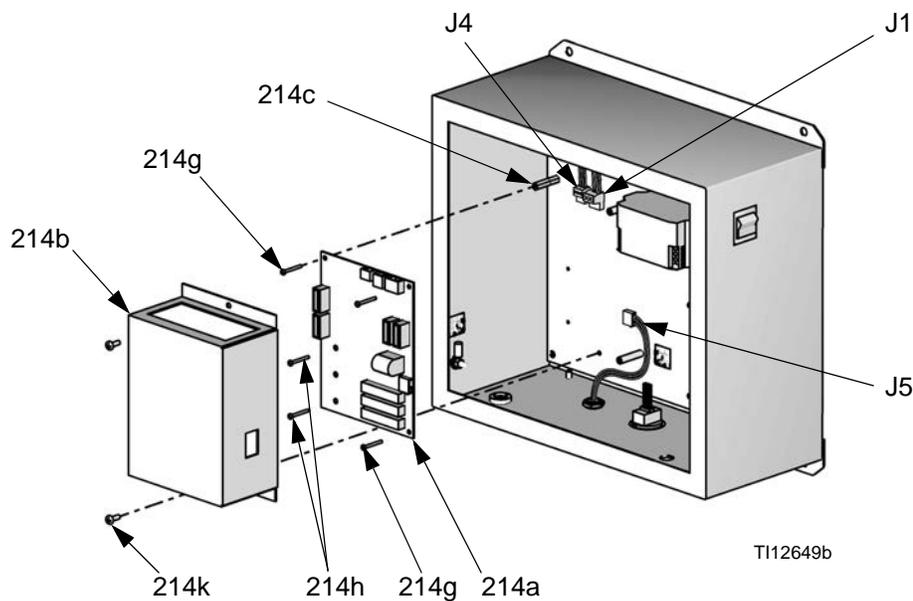

FIG. 17: Replacing Barrier Board
4. Using the security tool provided (Part No. 122239), remove 2 screws (214k) and the cover (214b). See FIG. 17.